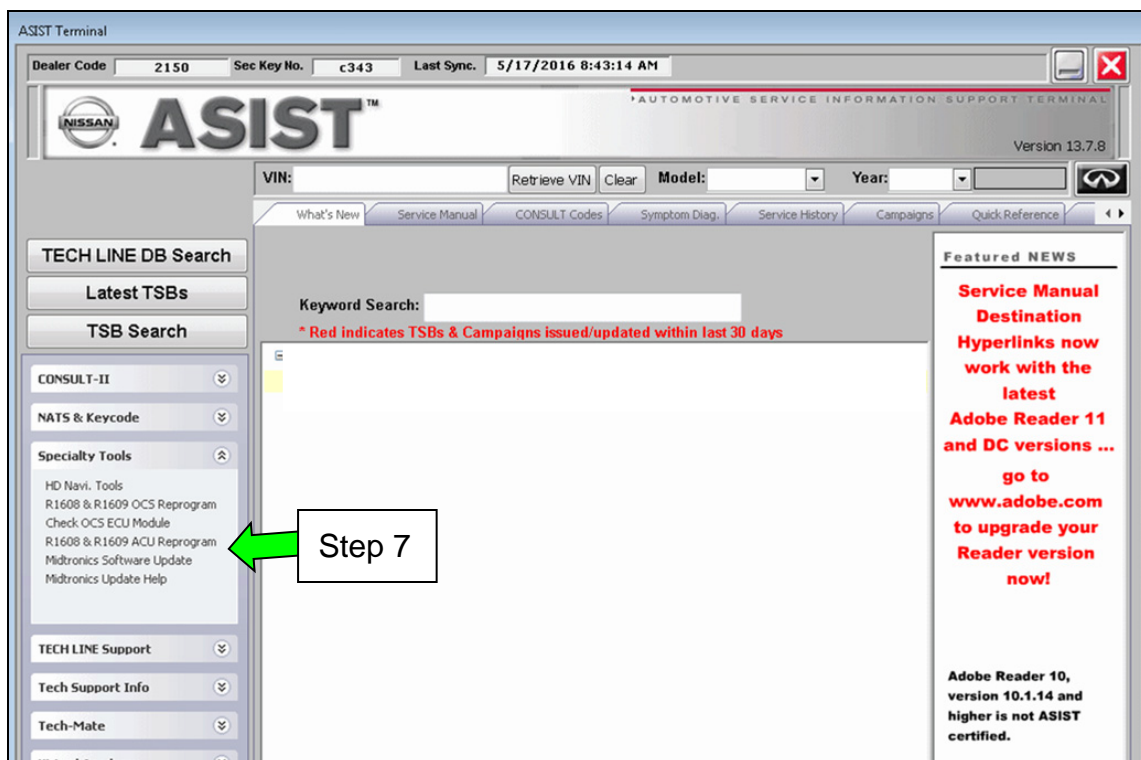

Figure 1
This bulletin has been amended to correct Step 7 and Figure 1 on Page 4 and to correct Step 6 and Figure 25 on Page 9. Discard all previous copies of this bulletin.
7. Start the CONSULT PC, open ASIST and then select “**R1608 & R1609 ACU Reprogram**” on ASIST under Specialty Tools (Figure 1).